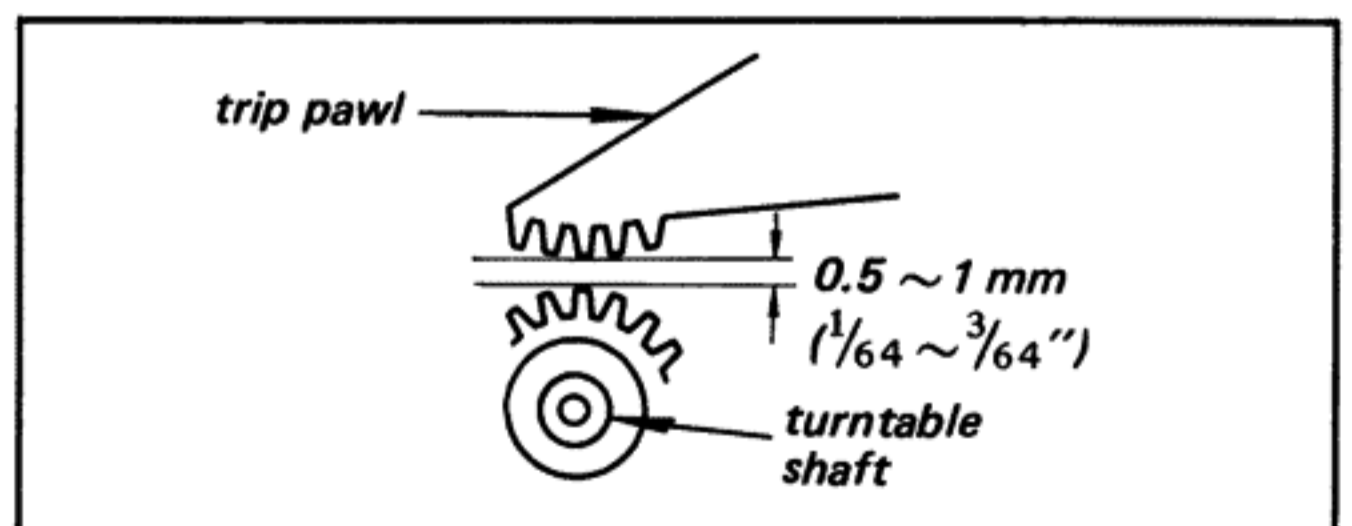

Fig. 2-9. Turntable shaft adjustment
5. Confirm that the clearance between the gear of the turntable shaft and the trip pawl is 0.5 ~ 1 mm ( $\frac{1}{64}$  ~  $\frac{3}{64}$ "') as shown in Fig. 2-9.